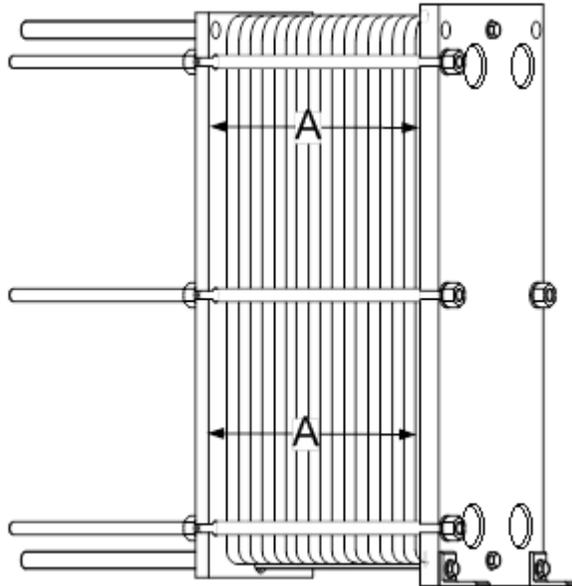

Figure 8-14. Tightening Plate Pack Bolts
8. Place bolts in position and tighten the plate pack using diagonally opposite bolt pairs, (the opposite of the opening procedure in section 8.7.1, step 10) until the plate pack length is reduced to $\pm 1\%$ of dimension "A" in the channel plate assembly instructions supplied with unit. During tightening, the pressure plate must not be out-of-parallel to the frame plate by more than $3/8$ " in the horizontal plane and 1" in the vertical plane. See Figure 8-14.